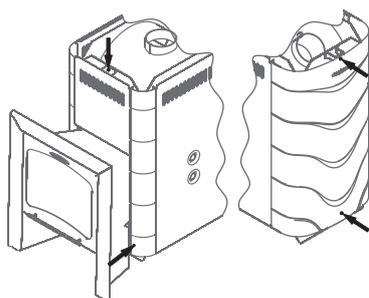

Figure 9. «Angara 2012» bath stove convector disassembling
2. Remove the convector by unscrewing 5 self-drilling screws (fig. 9);